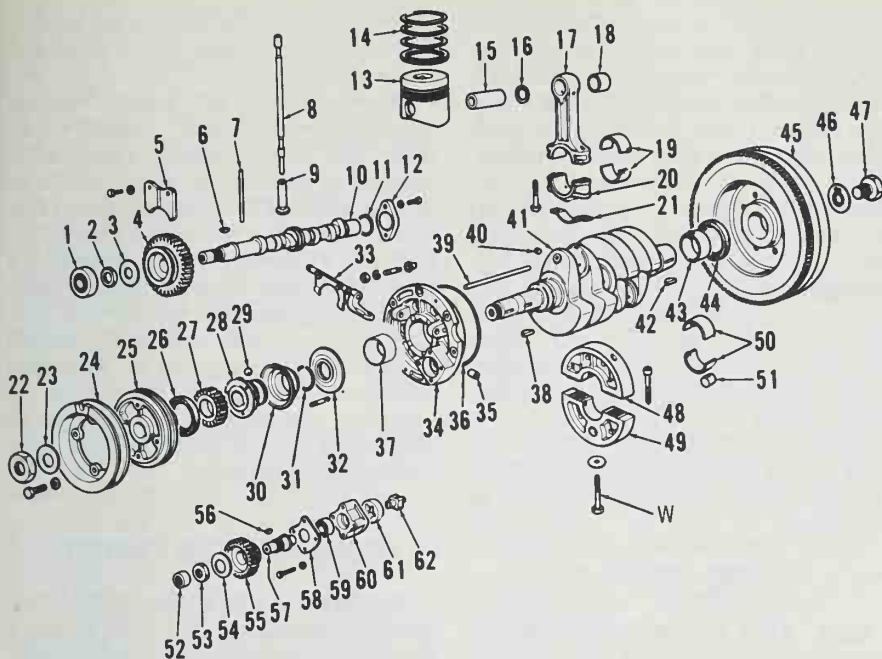
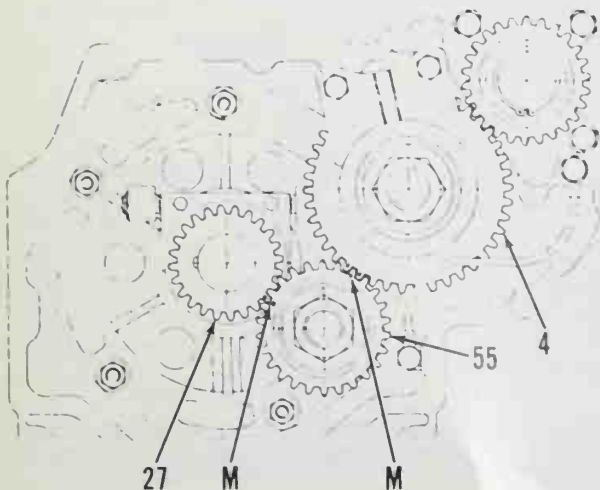
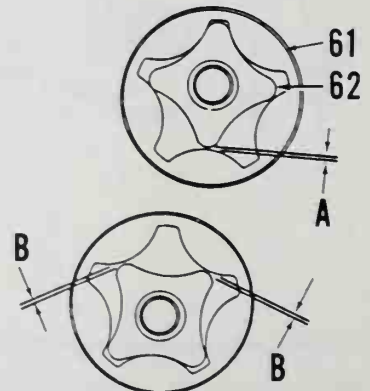
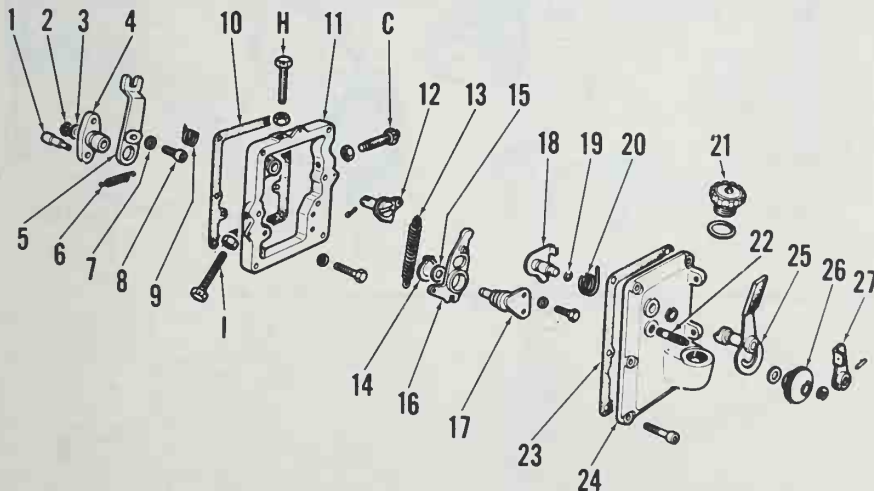

Fig. L4-15—Exploded view of crankshaft, camshaft and oil pump assemblies.
Fig. L4-18 - View showing location of timing marks (M) on camshaft gear (4), crankshaft gear (27) and oil pump gear (55).
Fig. L4-19 - Refer to text for clearances (A&B) between oil pump outer rotor (61) and inner rotor (62).
Fig. L4-20—Exploded view of governor and throttle control linkage.
Use a suitable puller to remove gears. Note that retainer (5-Fig. L4-15) must be removed before pulling off camshaft gear (4). When installing camshaft gear, place gear on shaft so retainer groove is out. Align timing marks (M-Fig. L4-18) on models so equipped, when installing gears. If timing marks are not present
R&R AND OVERHAUL. The oil pump is mounted on end main bearing support (34-Fig. L4-15). To remove pump, remove timing gear cover and oil pump gear (55). Unscrew pump housing screws and disassemble pump.
Refer to Fig. L4-19 and measure clearance between inner and outer rotors (61 and 62). Clearance (A) should be 0.01-0.06 mm with a maximum allowable clearance of 0.10 mm, and clearance (B) should be 0.02-0.10 mm with a maximum allowable clearance of 0.20 mm. Width of inner and outer rotors should be 14.95-14.97 mm and difference in rotor widths must not be greater than 0.02 mm. Outer rotor outer diameter is 40.54-40.57 mm. Pump housing bore is 40.60-40.63 mm. Clearance between outer rotor and pump housing bore should be 0.03-0.09 mm with a maximum allowable clearance of 0.13 mm. With pump cover (60-Fig. L4-15) and bearing retainer (58) installed and retaining screws torqued, inner rotor end
REMOVE AND REINSTALL. Remove cylinder heads, push rod tubes and push rods. Remove timing gear cover, gear retainer (5-Fig. L4-15) and camshaft gear (4). Remove fuel injection pump. Using suitable tools, pull valve tappets away from camshaft and secure tappets so they will not fall into crankcase when camshaft is removed. If tappets fall into crankcase, then crankshaft must be removed so tappets can be reinstalled. Withdraw camshaft from crankcase. Remove oil pan for access to tappets.
All models are equipped with a flyball type governor mounted on the crankshaft. As the flyballs (29-Fig. L4-15) move in and out against cup (30), fork and lever assembly (33) forces push rod (39) against pin (1-Fig. L4-20 or L4-21). Pivot flange (4), lever (16) and governor arm (5) are forced to rotate thereby moving fuel injection pump control rack pin (P). Throttle lever (25) operates through pivot arm (12) and governor spring (13) to control engine speed.
To adjust governor, remove cover (24-Fig. L4-20) and on Models 904 and 914, back out torque control screw (C) 5 or 6 turns. With engine stopped, check to be sure start spring (6-Fig. L4-20 and L4-21) has removed slack in governor mechanism. Loosen governor arm screw (8) and move governor arm (5) towards torque control screw (C) until fuel injection pump control rack pin (P) is in maximum fuel position. Tighten screw (8). Install control cover and run engine at high idle speed of 3150 rpm for Models 904 and 914 or 2350 rpm for Model L20. Turn torque control screw (C) in until engine speed just begins to decrease, then turn torque control screw in an additional 1½ turns on Models 904 and 914 or 2.2 turns on Model L20. Tighten torque control screw locknut.
R&R AND OVERHAUL. The crankshaft rides in sleeve bearings in the crankcase bulkhead and end bearing support (34-Fig. L4-15), and in insert bearings in center support halves (48 and 49).